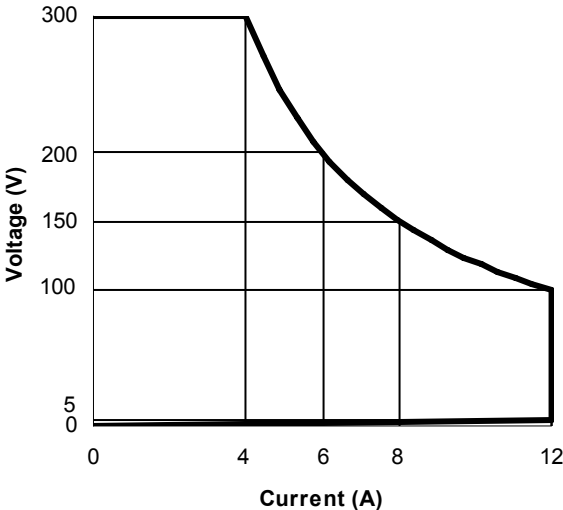

Figure 1-3 SLH-300-12-1200 Electronic Load Power Curve
- Figure 1-3 SLH-300-12-1200 Electronic Load Power Curve 1-2